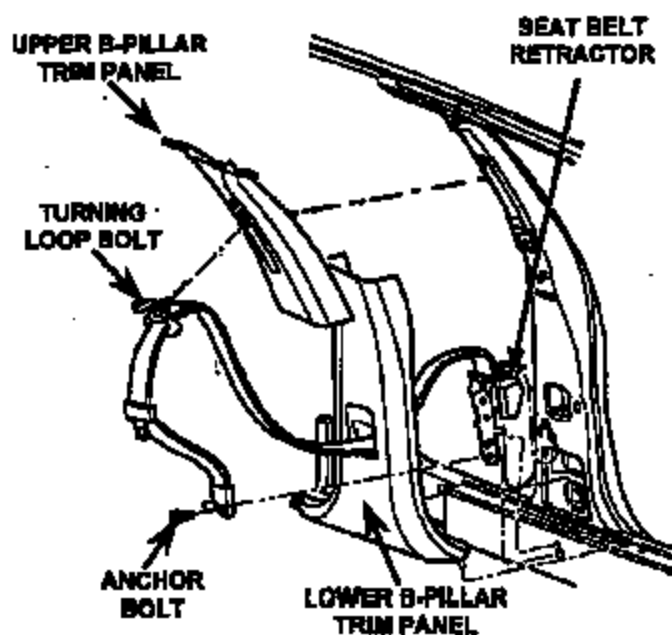

Figure 1
3. Remove the left (driver's) turning loop cover and then remove the turning loop bolt (Figure 1).
5. Remove the upper B-Pillar trim panel (Figure 1).
6. Remove the lower B-Pillar trim panel (Figure 1).
7. Remove the seat belt anchor bolt (Figure 1).
11. Remove and discard the retractor assembly (Figure 1).
12. Install the new retractor assembly (Figure 1). Attach the retractor to the B-Pillar with the push-in fastener.
15. Install the seat belt anchor bolt (Figure 1). Tighten the bolt to 44 ft-lbs (60 N·m).
16. Install the lower B-Pillar trim panel (Figure 1).
17. Install the upper B-Pillar trim panel (Figure 1).
18. Install the left (driver's) turning loop bolt (Figure 1). Tighten the bolt to 44 ft-lbs (60 N·m) and then install the turning loop cover.